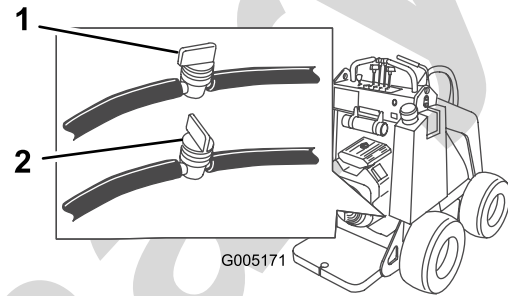

Figure 29
2. Shut off the fuel valve on the bottom of the fuel tank (Figure 29).
3. Shut off the fuel valve in the hose near the bottom of the fuel tank (Figure 29).
8. Open the fuel valve in the hose near the bottom of the fuel tank as illustrated in Figure 29.